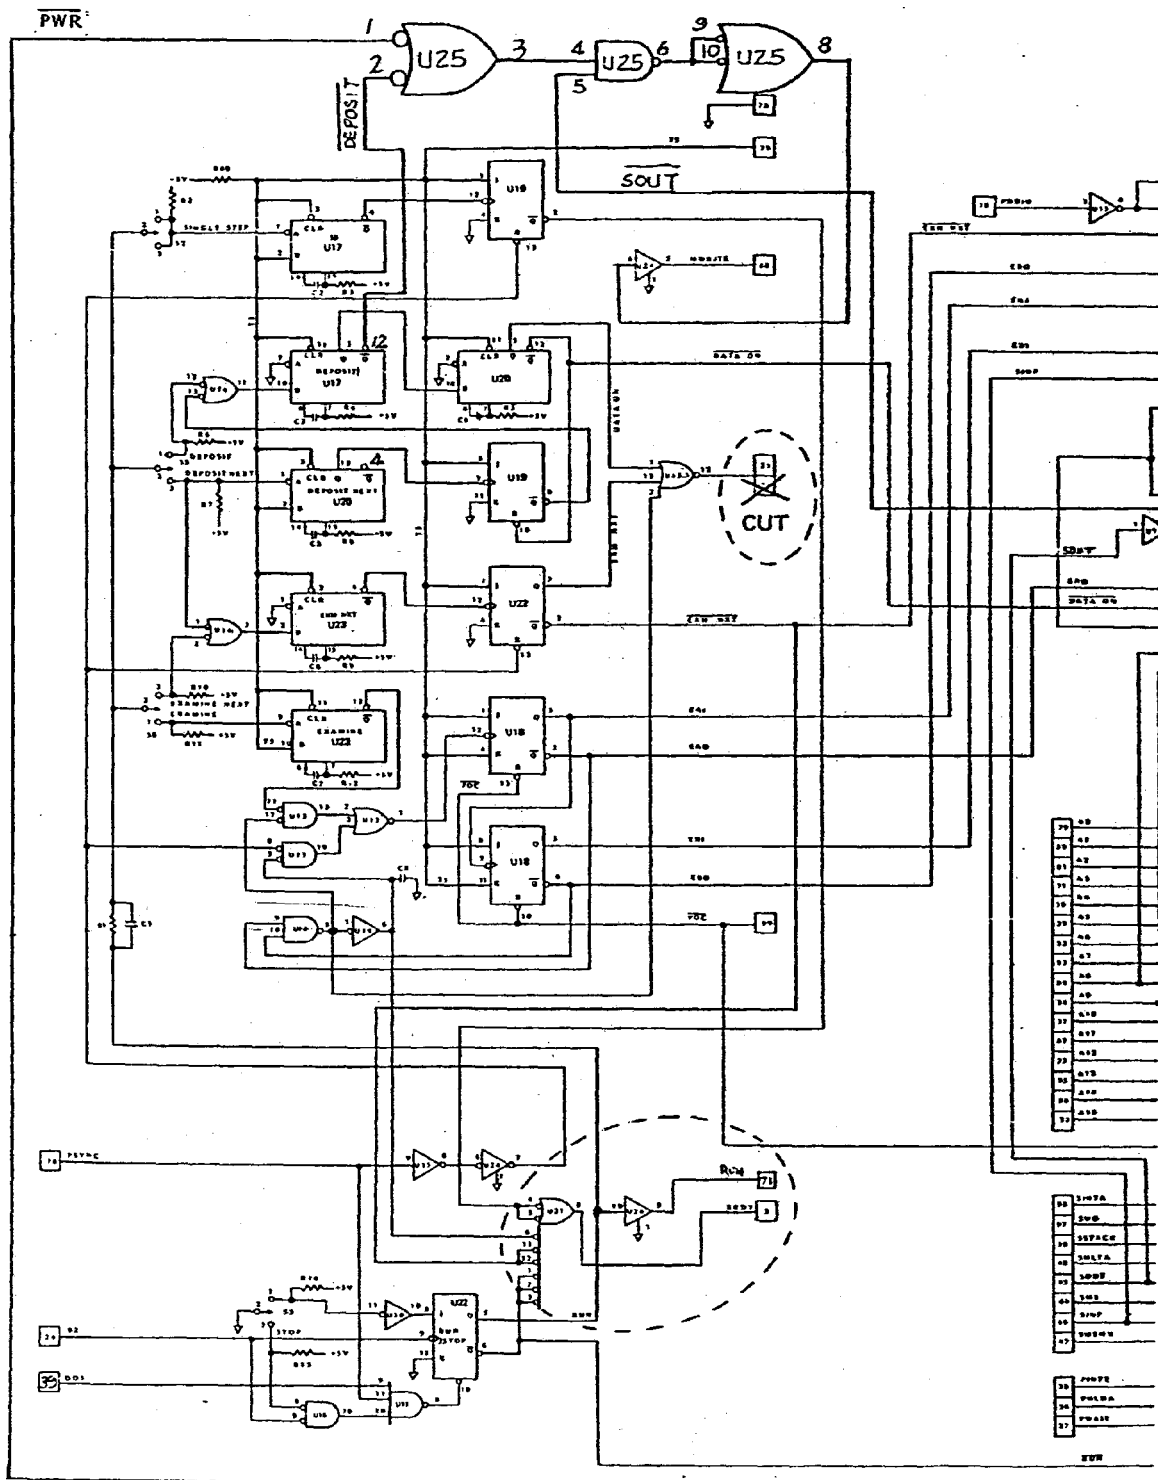

FIGURE 3
5. Correct the schematic as shown in Fig 3.